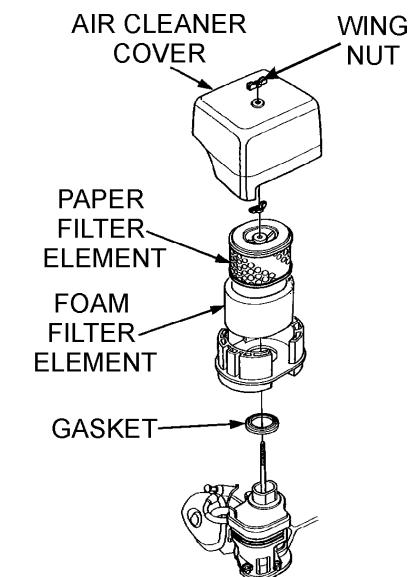

Figure 30. Engine Air Cleaner
1. Remove the air cleaner cover and foam filter element as shown in Figure 30.
2. Tap the paper filter element (Figure 30) several times on a hard surface to remove dirt, or blow compressed air [not exceeding 30 psi (207 kPa, 2.1 kgf/cm2)] through the filter element from the air cleaner case side. **NEVER** brush off dirt. Brushing will force dirt into the fibers. Replace the paper filter element if it is excessively dirty.